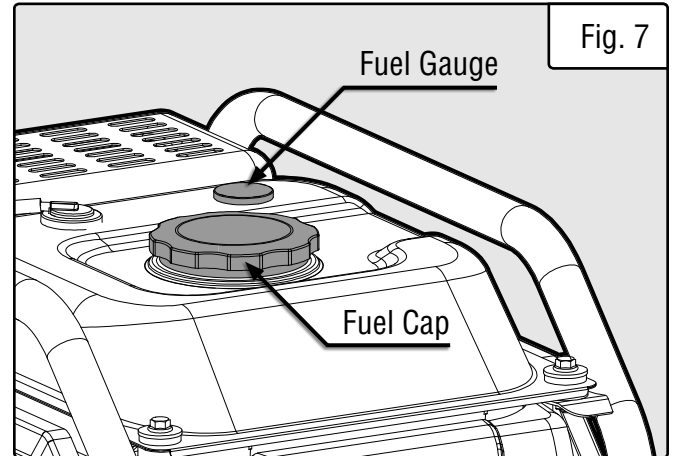

Fig. 7
2. Unscrew the fuel cap (Fig. 7) and set it aside. The fuel cap may be tight and hard to unscrew.
1. Before starting the generator, check the fuel gauge (Fig. 7) to see if there is sufficient fuel inside the tank: